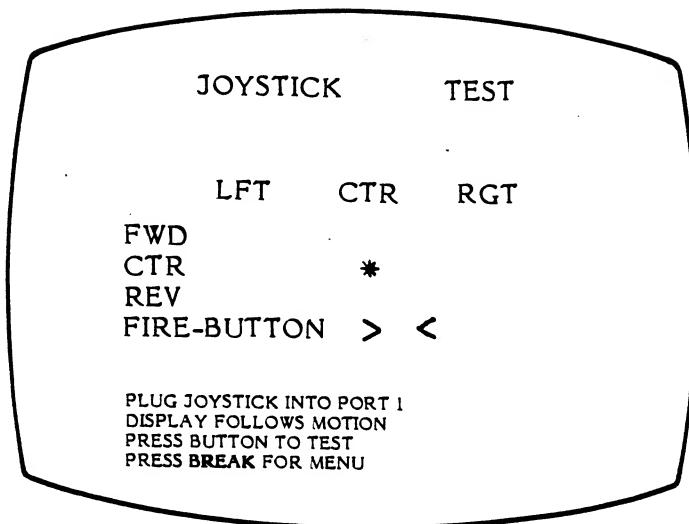

Figure 2-22. Joystick Test Screen
Figure 2-22 shown below is the Joystick Test Screen.
**NOTE:** The keyboard shown on the screen and in Figure 2-22 is for an ATARI 1200XL TM Computer. Therefore, some keys shown will not function. As each key is pressed, the displayed key will flash to inverse video and a tone is heard. Remember, CONTROL and the SHIFT keys require an additional key be pressed AT THE SAME TIME. Failure of a key display and tone indicates the following possible failures: